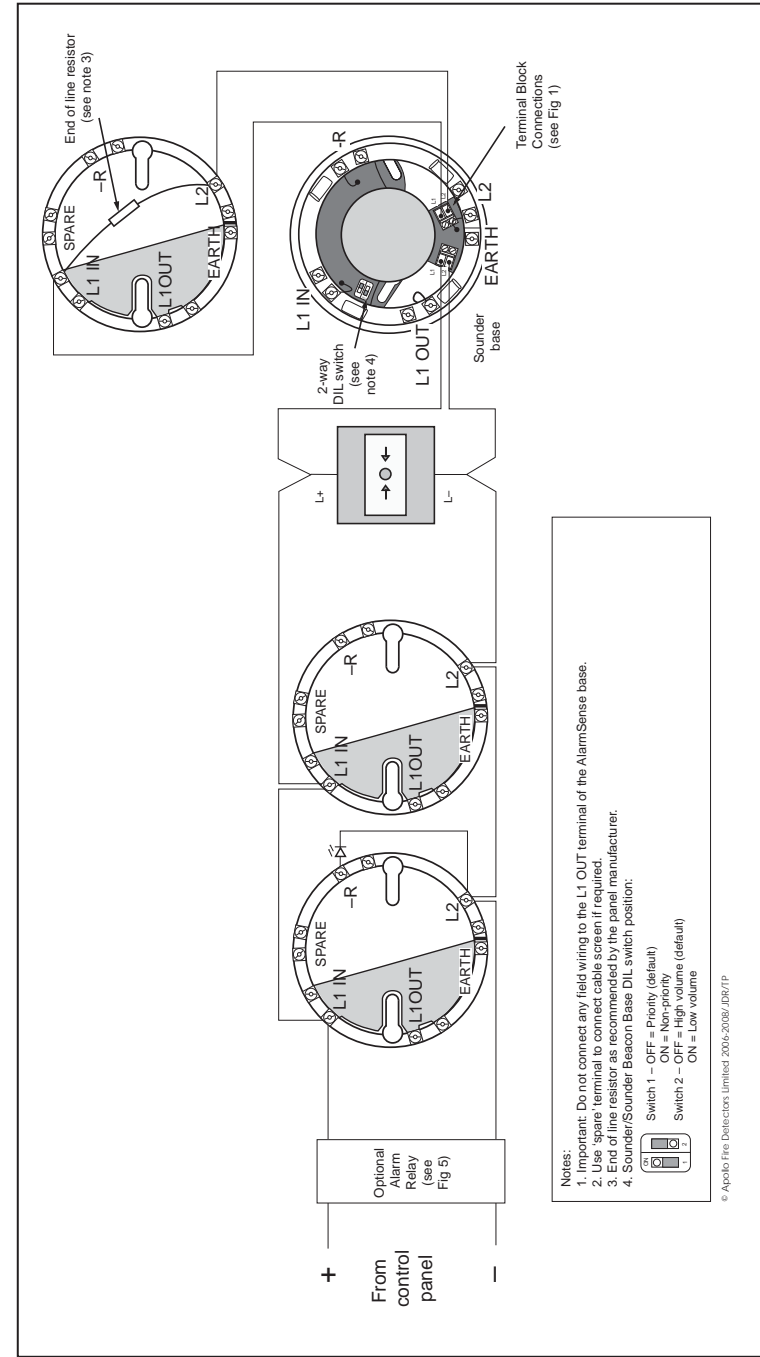

Fig 6 Schematic wiring diagram of an AlarmSense zone
Wiring connections to the AlarmSense base, part no 45681-244, are shown in **Fig 6**.
- 7. Connect end-of-line supplied by the panel manufacturer between COM 1 and COM 2. (See Fig 6).